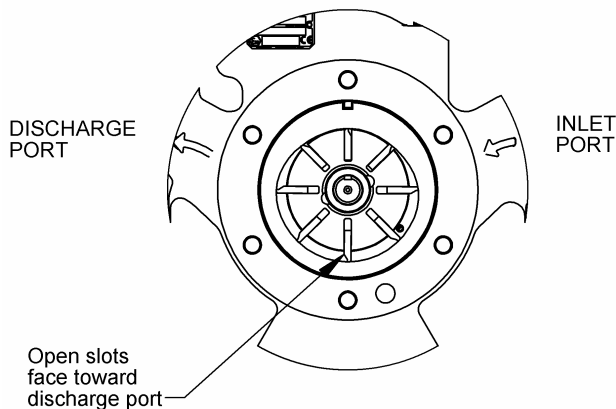

Figure 7. Vane Installation
3. Turn the shaft by hand until a vane (14) comes to the bottom (6 o'clock) position of the rotor. Remove the vane.
4. Install a new vane (14), ensuring that the rounded edge is DOWN, and the relief grooves are facing towards the discharge port. See Figure 7.
19. Install a new vane (14), ensuring that the rounded edge is DOWN, and the relief grooves are facing towards the discharge port. See Figure 7. Repeat this process for all eight vanes.